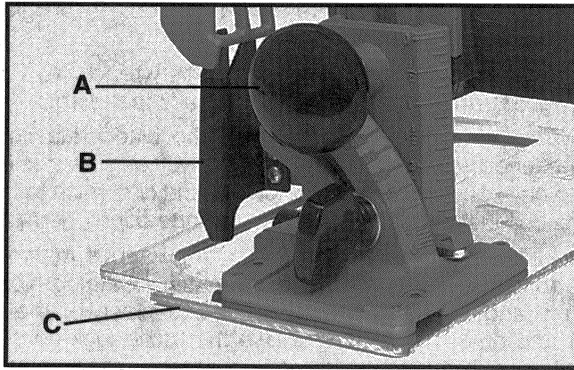

Fig. 4
2. With one hand holding the top handle of the saw, loosen the auxiliary handle/depth adjusting knob (A) Fig. 4, and lower the base (C) to decrease cutting depth or raise the base (C) to increase cutting depth. Firmly tighten knob (A) at desired depth setting.
Your Porter-Cable saw is equipped with an auxiliary blade guard (B) Fig. 4.